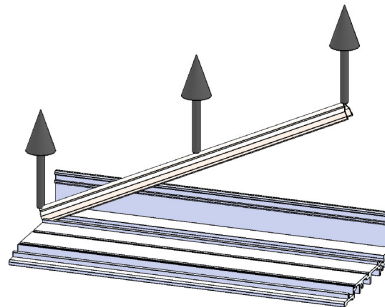

Figure 31:
1. Using a pair of pliers, slightly squeeze the track together at one end and pull up (Figure 31).